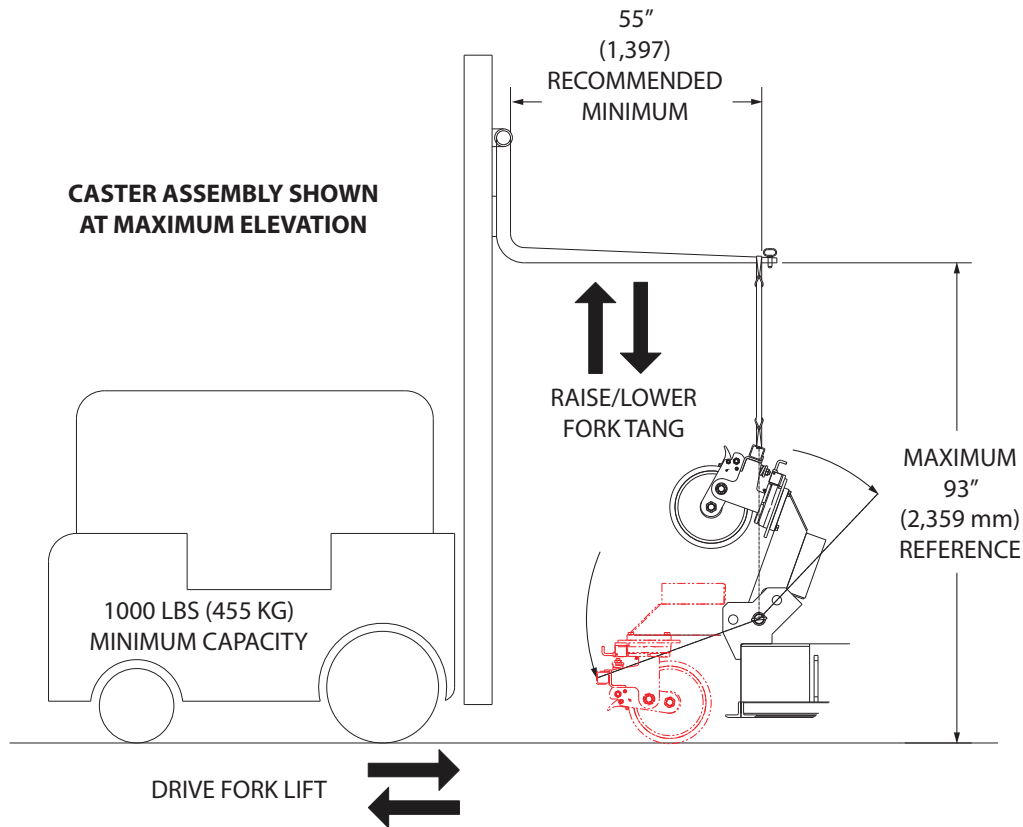
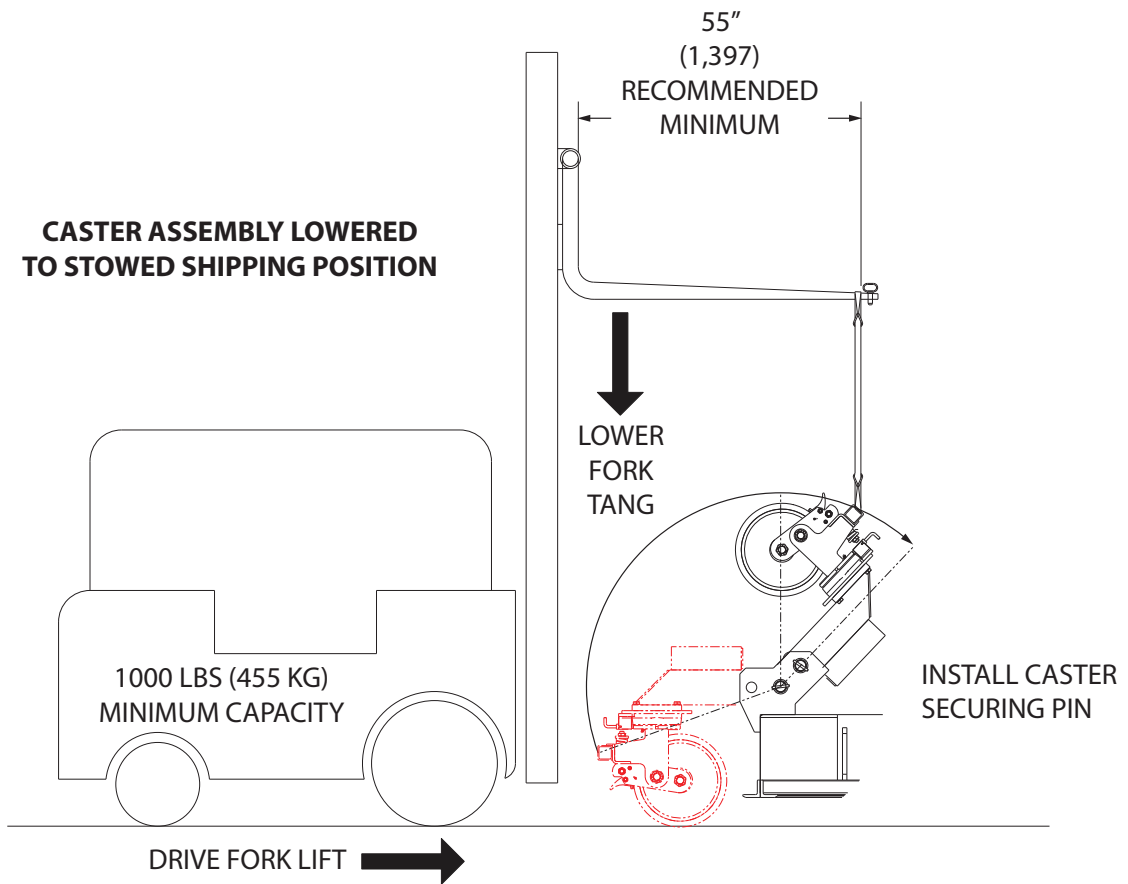

Figure 5.10-2
Figure 5.10-3
3. Once the caster assembly has reached the maximum elevation point, figure 5.10-2, move horizontally to move, the center of gravity of the assembly, over center to continue along the rotation path. Lower the forklift and continue to move horizontally towards the stand until the caster assembly comes to rest in the storage position, shown in figure 5.10-3.